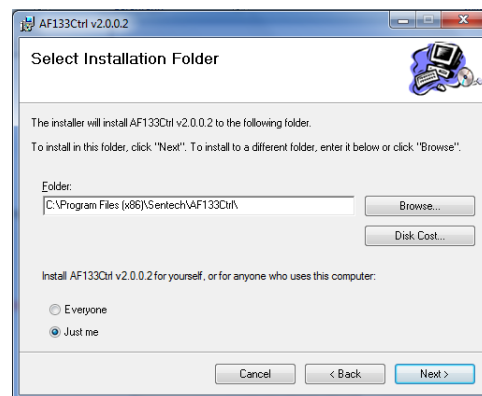

Figure 3
2. If necessary, change the installation folder. Then select the "Next" button (Figure 3).